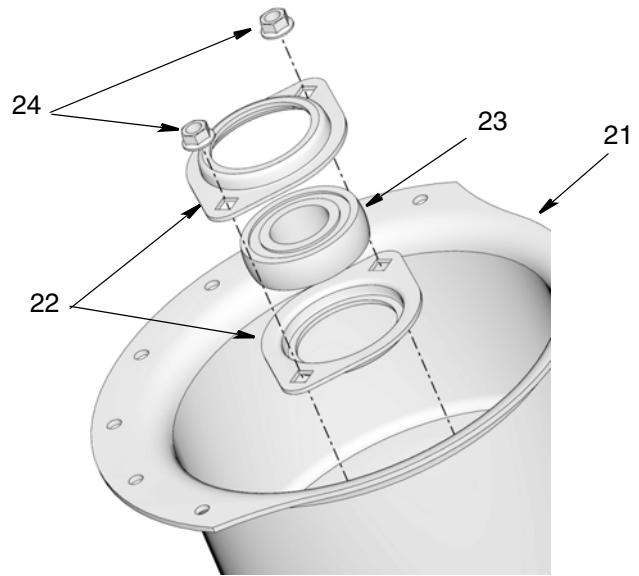

FIG. 43
- a. Install bearing flange (22), bearing (23), bearing flange (22) and nut (24) in motor mount bracket (21). Refer to FIG. 43 to determine the correct orientation of these parts.